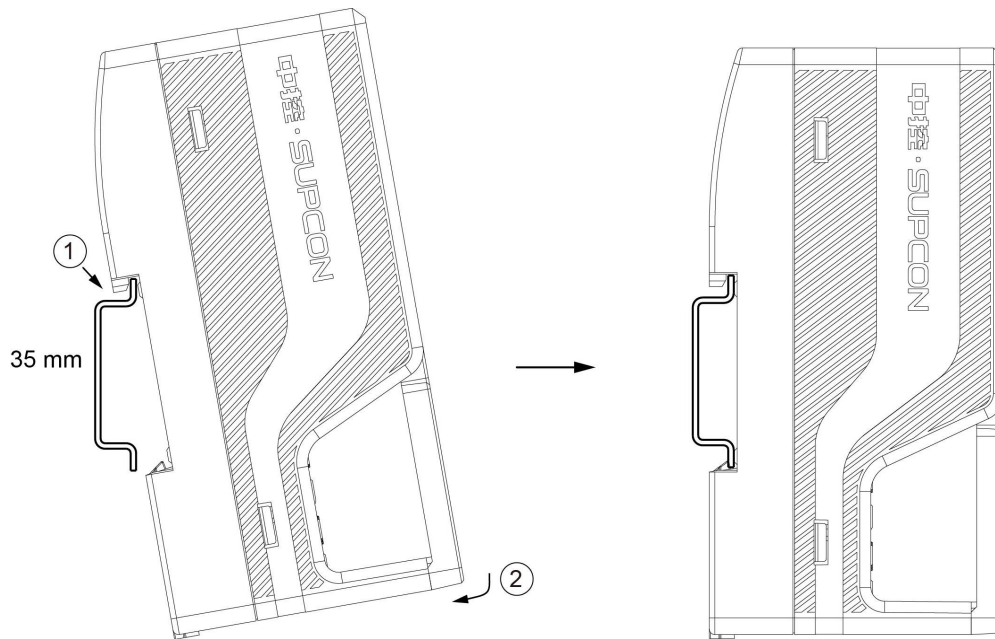

Figure 5-2 Mount the module
- 1) Attach the side without a buckle of the module to the rail, as ① shows in Figure 5-2.
- 2) Rotate the module and fix the side of active buckle into the rail as ② shows in Figure 5-2 to complete the mounting.